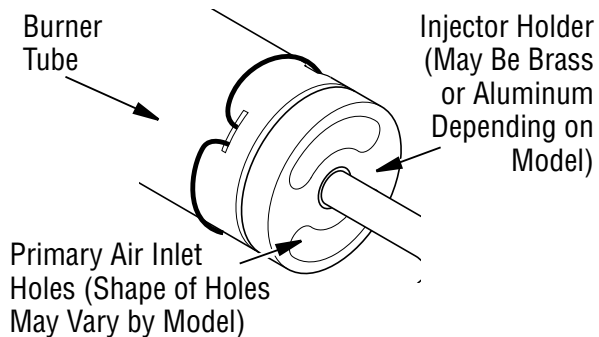

Figure 32 - Injector Holder On Outlet Burner Tube
2. Inspect burner, pilot, and primary air inlet holes on injector holder for dust and dirt (see **Figure 32**).